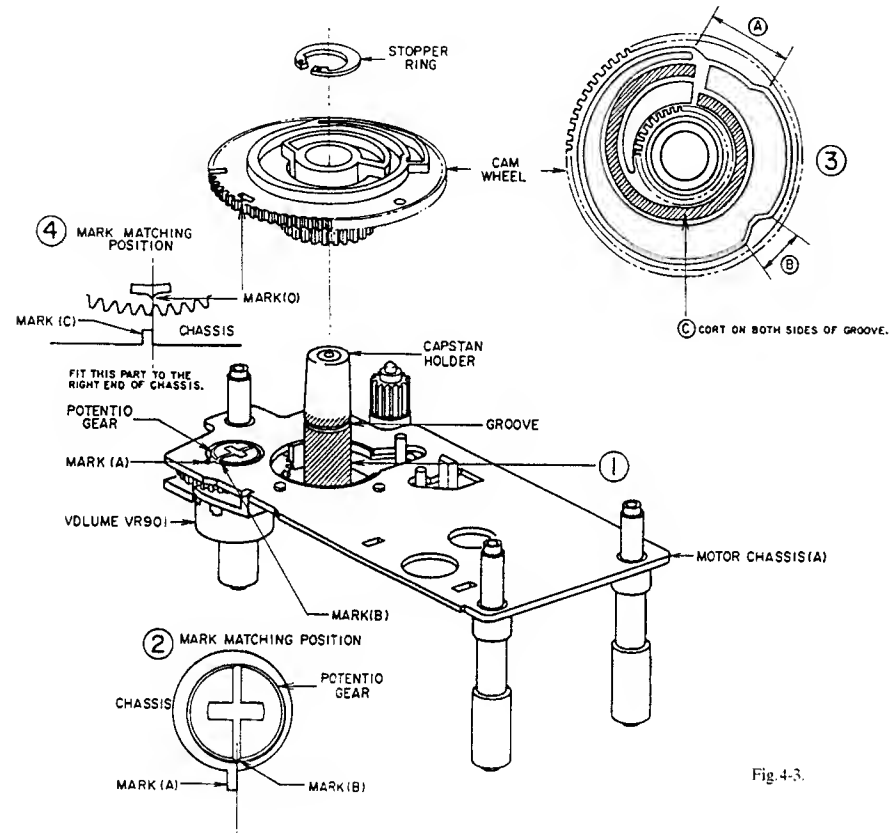

Fig.4-3.
Apply Molybdenum coat on the area of 360° from the bottom to the upside 2mm of groove as shown in the figure. (Fig.4-3-①)
Fit the right end of Mark (A) to the center of Mark (B) as shown in the figure. (Fig. 4-3-②)
- 3) Apply Molybdenum coat on the (A), (B) and (C) shown in the Fig.4-3-③
- When the cam wheel is set properly, fit the center of Mark (D) to the right end of Mark (C). (Fig.4-3-④)